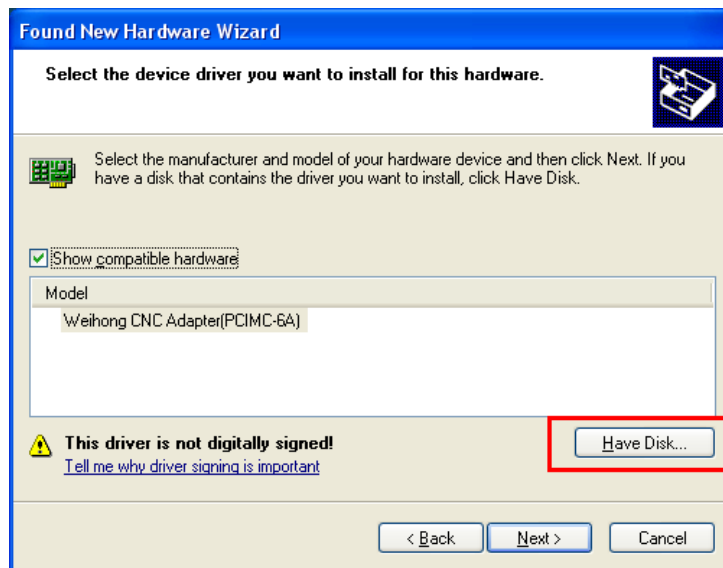

Fig. 4-3 Find driver location—1
- 3) Select “Don’t search. I will choose the driver to install”, and then click “Next”. See Fig. 4-3 for the new pop-up window.